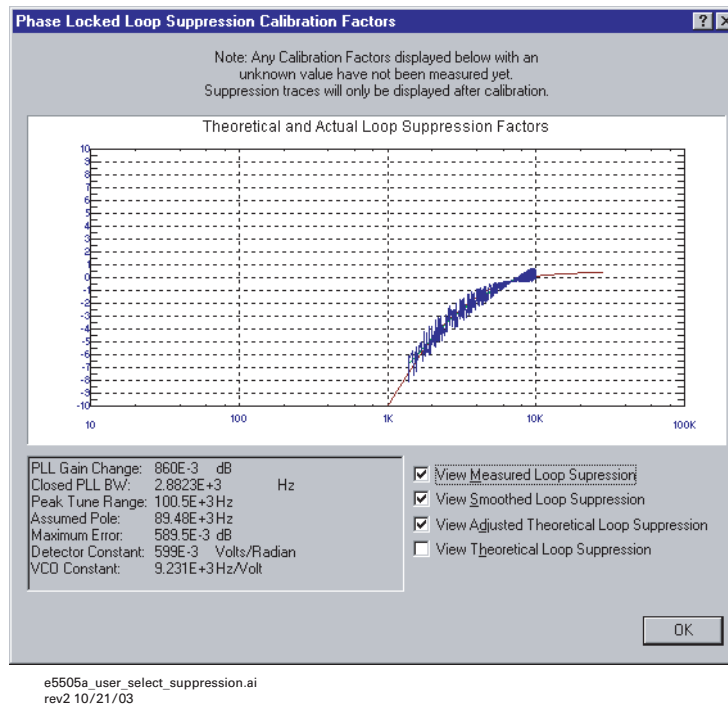

Figure 142 Selecting suppressions
- 2 When the PLL Suppression Curve dialog box appears, select **View Measured Loop Suppression**, **View Smoothed Loop Suppression**, and **View Adjusted Loop Suppression**. See Figure 142 on page 201.